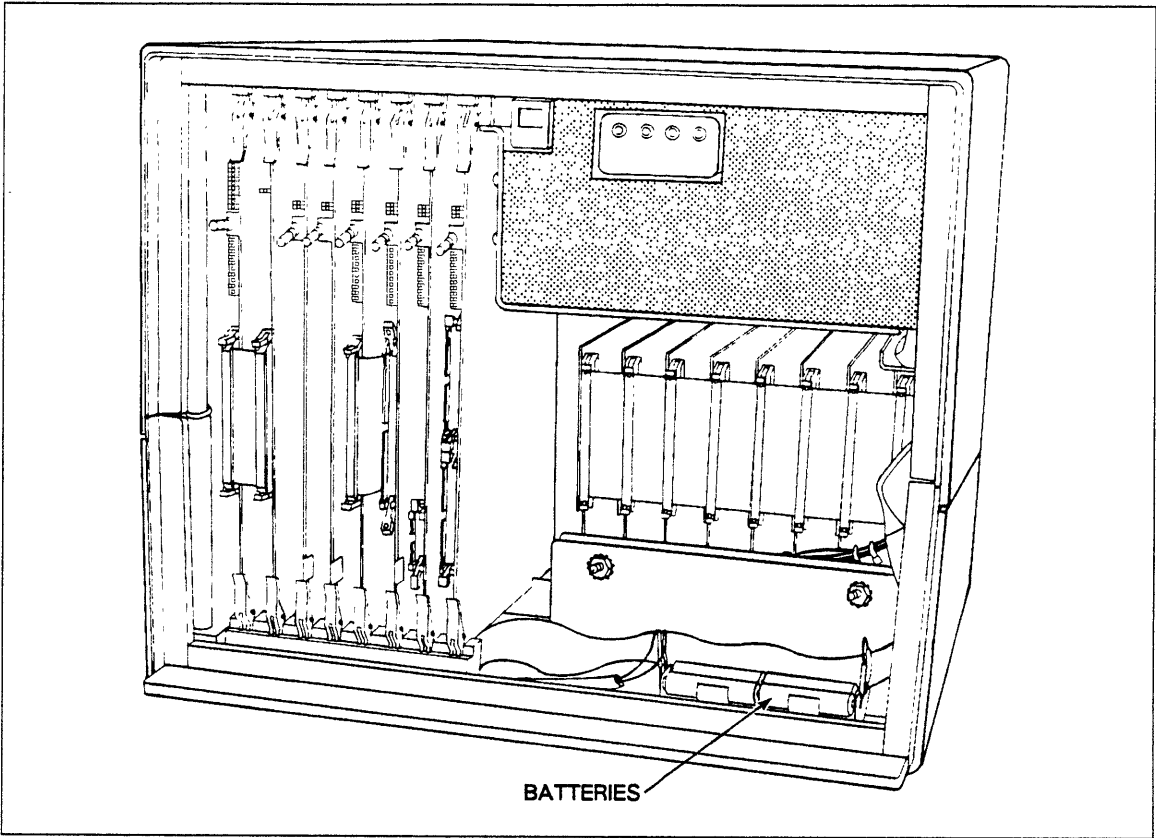

Figure 9-15. Batteries
3. Remove batteries from holder (figure 9-15).